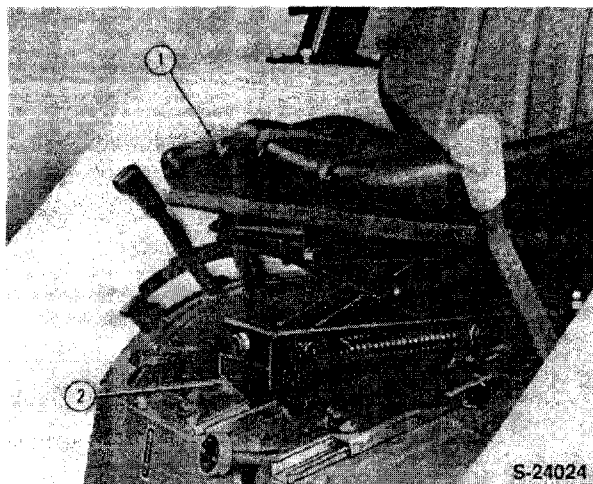

Figure 19
5. Remove the seat and seat platform and track assembly, Figure 19.
3. Remove the seat and seat platform and track assembly, Figure 19.